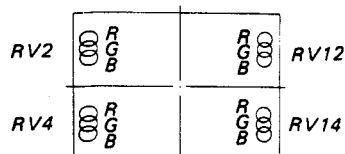

Fig. 1-17.
- Adjust RV2, RV4 and RV12, RV14 on the DB board to coincide with the R, G and B dots as shown in Fig. 1-17.